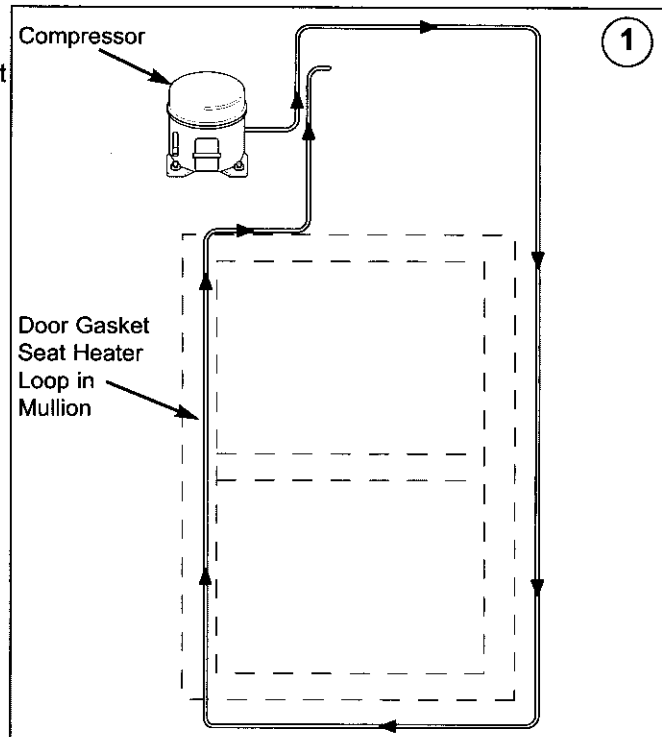

Figure 4-7. Compressor
### (1) - Compressor (Figure 4-7)